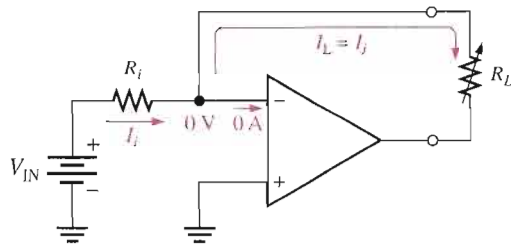

FIGURE 14-33
A constant-current source delivers a load current that remains constant when the load resistance changes. Figure 14-33 shows a basic circuit in which a stable voltage source (V_{IN}) provides a constant current (I_i) through the input resistor (R_i). Since the inverting ($-$) input of the op-amp is at virtual ground (0 V), the value of I_i is determined by V_{IN} and R_i as
1. For the constant-current source in Figure 14-33, the input reference voltage is 6.8 V and R_i is 10 k Ω . What value of constant current does the circuit supply to a 1.0 k Ω load? To a 5 k Ω load?